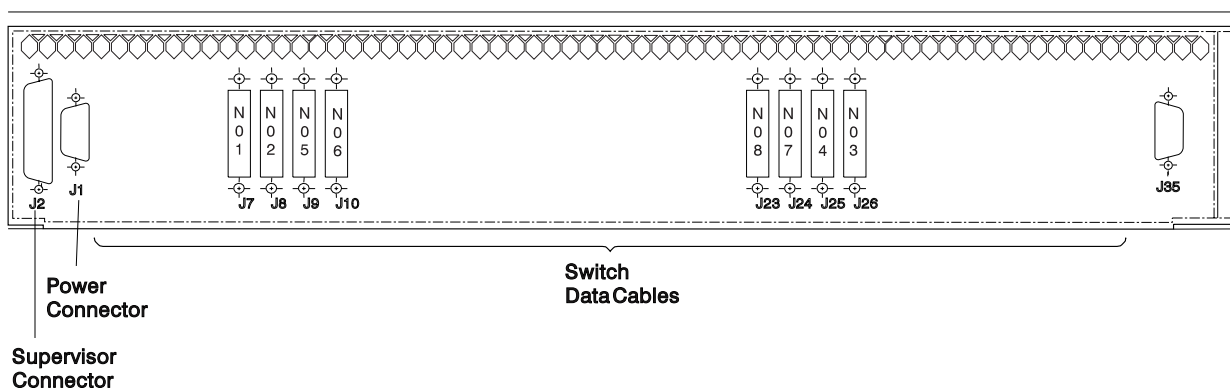

Figure 2-16. Scalable POWERparallel Switch (SPS) Bulkheads
3. Refer to Figure 2-15 on page 2-21 and Figure 2-16 on page 2-22 to familiarize yourself with the HiPS and SPS bulkheads.